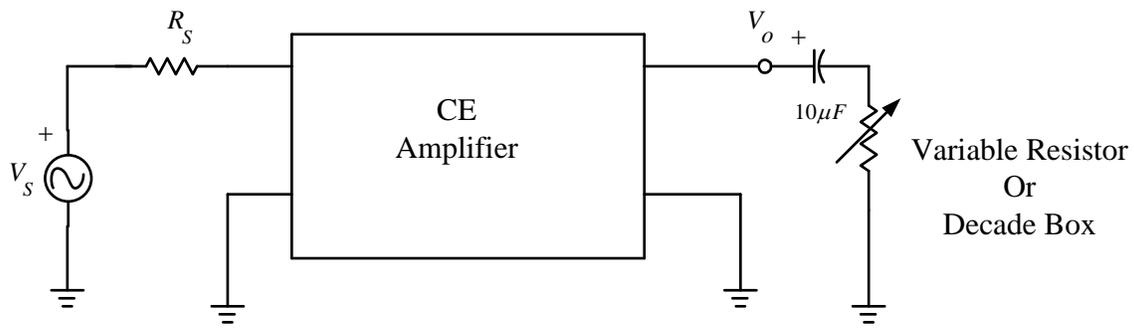

Fig. 2. The decade box must be capacitively-coupled as shown.
5. Next, you will measure the output resistance of the amplifier. To do this, return the generator frequency to 3kHz and make sure that the output is still 6V peak-to-peak. Connect a decade box through a 10uF capacitor as shown in Fig. 2. Change the decade box resistance until the output is exactly half (i.e., 3V peak-to-peak). The resistance of the decade box will equal the output resistance of the amplifier.